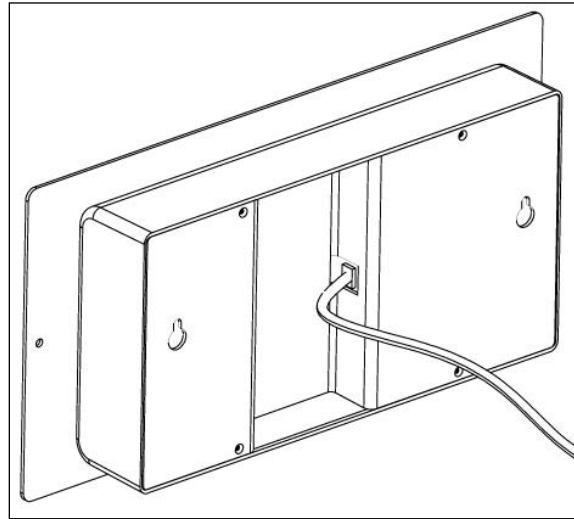

Figure 12: Data Cable Installation
- Install the data cable in the rear of the clock as shown in Figure 12. The clock is now ready for installation.